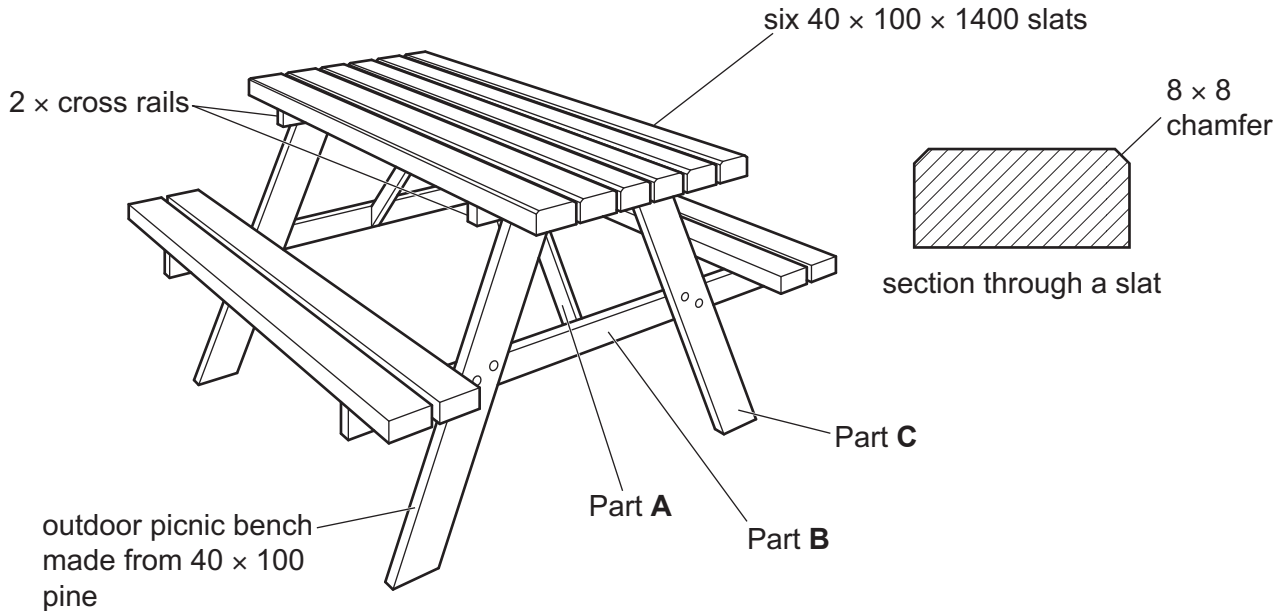

Fig. 1.1
- 1 Fig. 1.1 gives details of an outdoor picnic bench which is to be made in a school workshop.